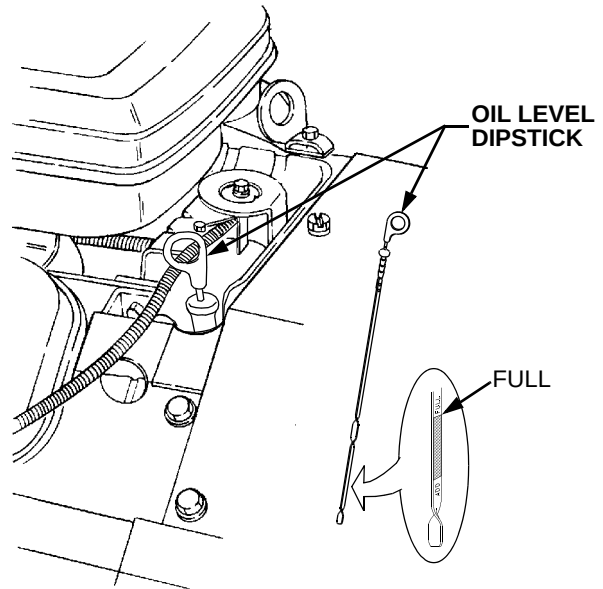
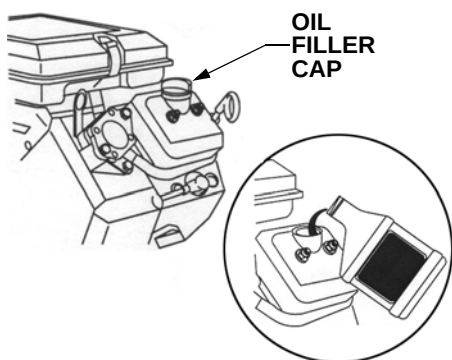

Figure 20
Figure 21
Before each use, the oil level of the engine crankcase should be checked to see that it is filled to the correct level. Close monitoring of the oil level during the first 10 hours of operation of the engine is especially important. Before checking the oil level, clean the area around the oil level dipstick to prevent debris from entering the crankcase. Always keep the oil level up to the "FULL" mark on the dipstick (See Figure 20). When checking the oil level, the engine must be cold, the dipstick must be withdrawn and wiped clean, then pushed fully into the tube before being withdrawn for a true reading.
2. Clean the area around the oil filler cap to prevent debris from entering the crankcase. See Figure 21.
3. Unscrew the oil filler cap from the right valve cover and **SLOWLY** pour in oil (See Figure 21). Fill the crankcase until the oil level reaches the "FULL" mark on the dipstick (Refer to Figure 20).
3. Remove the oil filler cap from the valve cover and SLOWLY pour in oil. The oil capacity is approximately 1-1/2 quarts. Fill the crankcase until the oil level reaches the "FULL" mark on the dipstick (Refer to Figure 20).